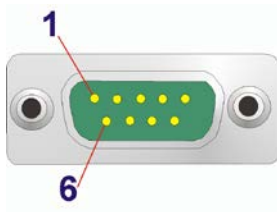

Figure 3-33: Serial Port Pinout Locations
- CN Pinouts:** See **Table 3-32** and **Figure 3-33**